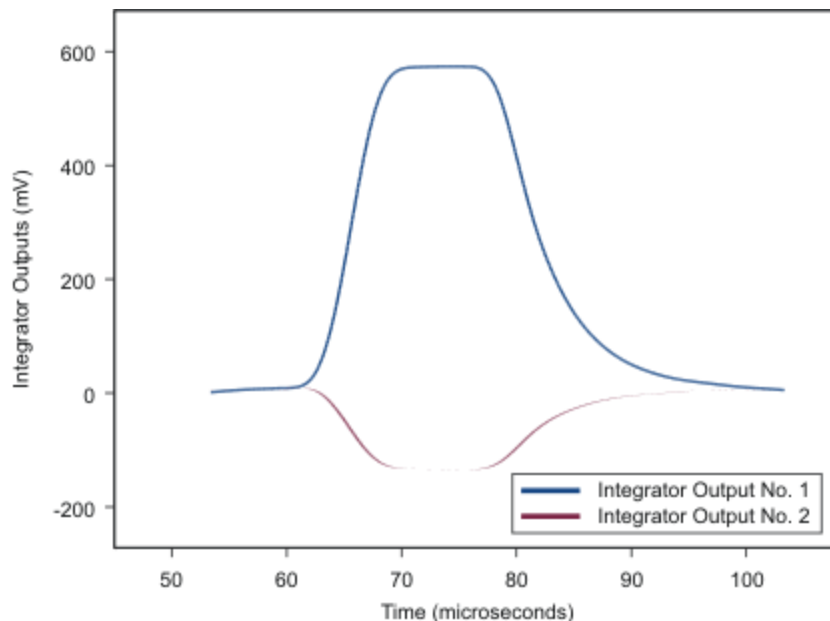

Figure 2-4. Typical Integrator Output.
14. Install a cable from the "Integrator No. 1 Mon." to a high impedance input on the oscilloscope with the sensitivity at 200 mV/cm and D.C. coupled. A waveform resembling that shown in Figure 2-4 should be observed. Note that a positive going phase detected signal will produce a negative output from the integrator.